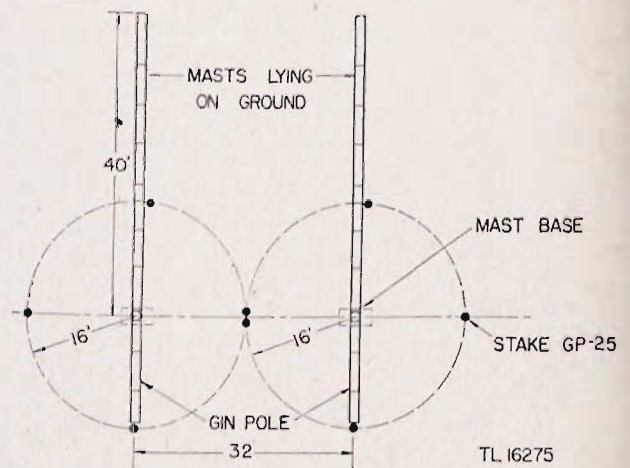

Figure 27. Terminal station layout.
b. Terminal Station. A terminal station requires two antennas, one for receiving and one for transmitting. The mast bases are spaced at least 32 feet apart to prevent overlapping of the guy wires. If the site permits, antennas pointing in the same direction should be located side by side and not one behind the other (fig. 27).